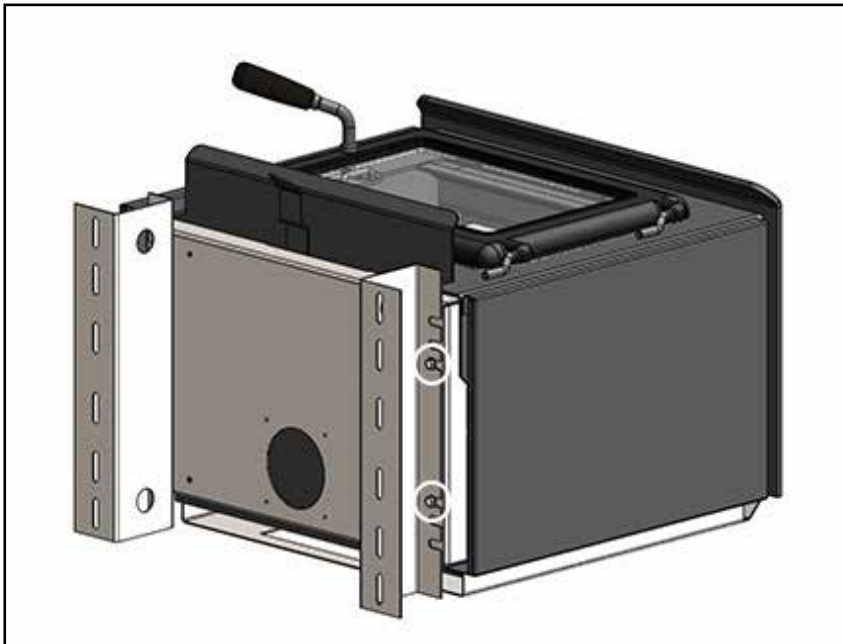

Figure 4: Pallet Bracket screws.
4. Carefully lay the unit on its back and remove the four screws securing the pallet brackets to the stove and discard the brackets. Remove the other four screws in the bottom air box and save all eight screws for installing the Legs or Pedestal Figure 4